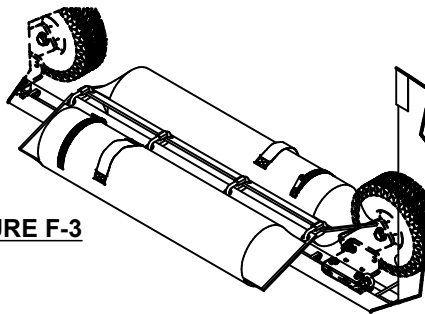

FIGURE F-3
3. Clip each pair of bags together with 3/8" quick links using the grommets as shown in Figure F-3.